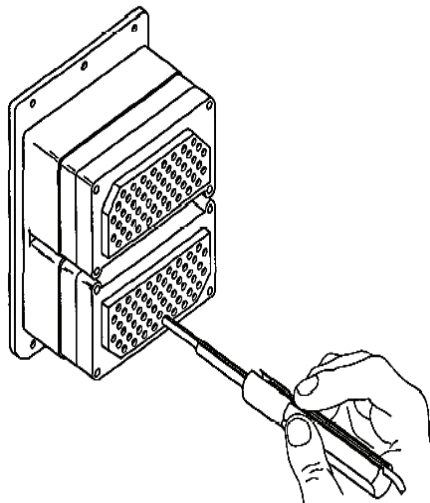

Figure 19. Removing Contact from Connector
- e. Press wire firmly against removal tool and pull wire straight out from contact cavity (Figure 19)